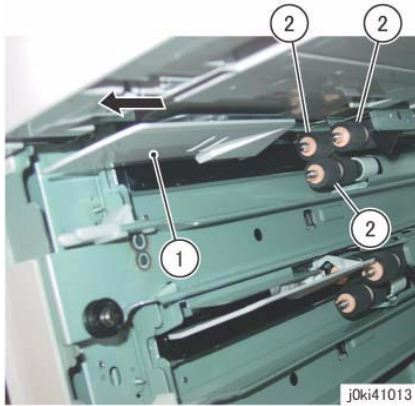

Figure 1 Remove the Tray 3 Feed/Retard/Nudger Rolls
4. Remove the Tray 3 Feed/Retard/Nudger Roll. (Figure 1)